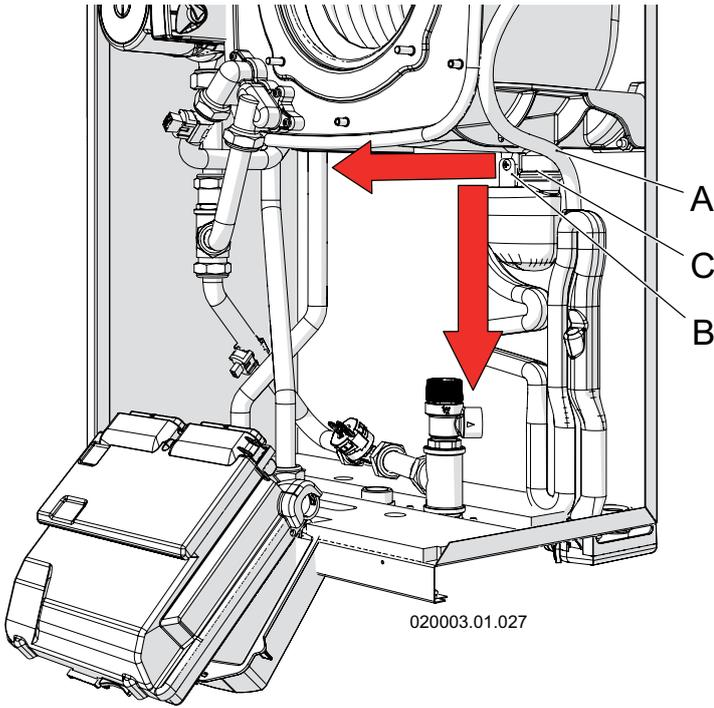

Figure 8.3 - Removal of the condensate collection siphon
- For correct cleaning of the collection siphon and the conveying of the condensate produced by combustion, operate as follows (refer to the figures 8.3, 8.4 and 8.5):